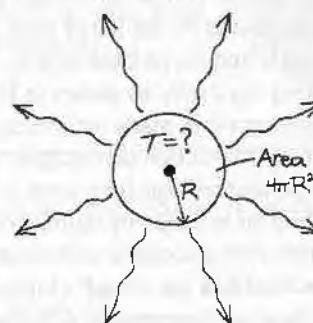

FIGURE 16.11 The Sun radiates from its spherical surface area  $4\pi R^2$ .
**DEVELOP** The Stefan-Boltzmann law, Equation 16.9, gives the radiated power in terms of the temperature, emissivity, and surface area:  $P = e\sigma AT^4$ . Our plan is to solve this equation for  $T$ . For the Sun, radiation comes from the entire spherical surface of area  $4\pi R^2$ , as our sketch shows (Fig. 16.11).